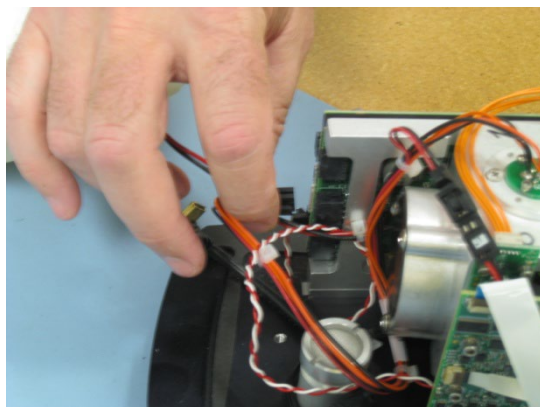

Figure 27. Disconnecting the laser/source power harness.
- 5 Disconnect the laser/source harness from the power board. The laser/source harness is identifiable by its 6-pin connector and orange, black and red wire combination (see Figure 27).